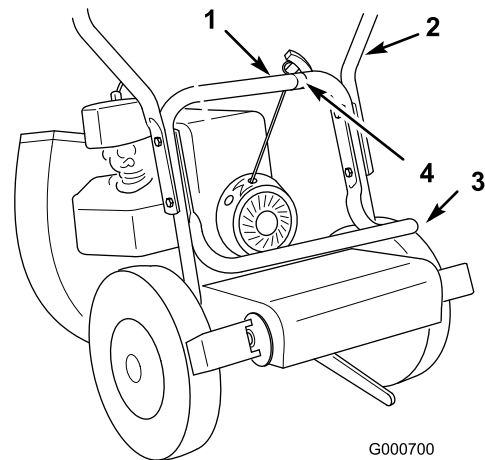

Figure 3
1. Attach the upper handle to the lower handle with 4 bolts (5/16 x 1-1/2 inches) and locknuts (5/16 inch) (Figure 3).
2. Secure the bag support to the inside of the lower handle while mounting the handle (Figure 3).